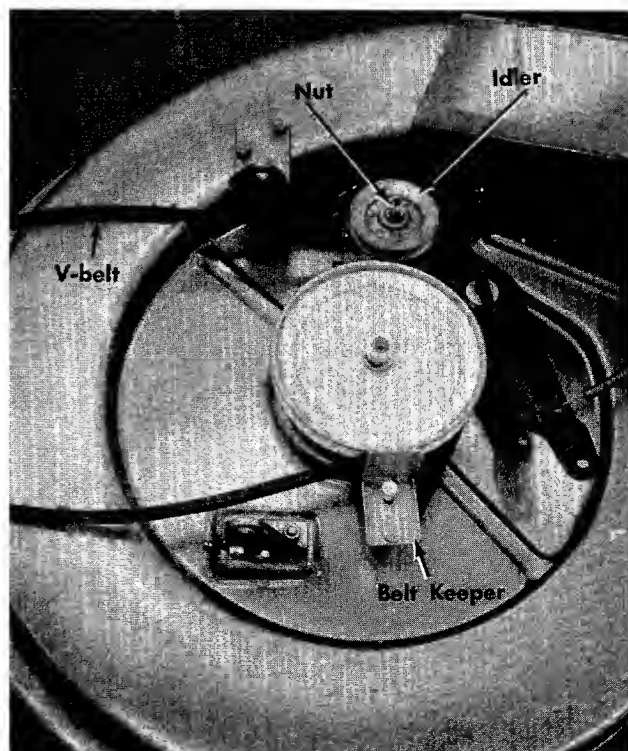

FIGURE 29.
3. Remove the belt keeper on the cutting deck. See figure 29.
4. Remove the nut from the idler on the cutting deck and remove the idler. See figure 29.